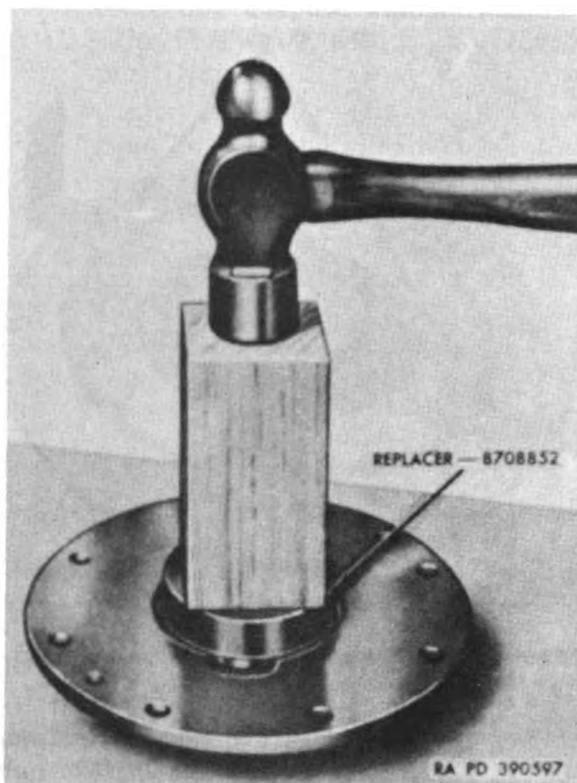

Figure 93. Installing fan drive vertical drive shaft oil seal.
seal housing (E) by using replacer 8708852 (fig. 93).
- (3) Install ball bearing (H) in vertical drive shaft bearing housing (J).
- (4) The remainder of the assembly is accomplished when engine is assembled.